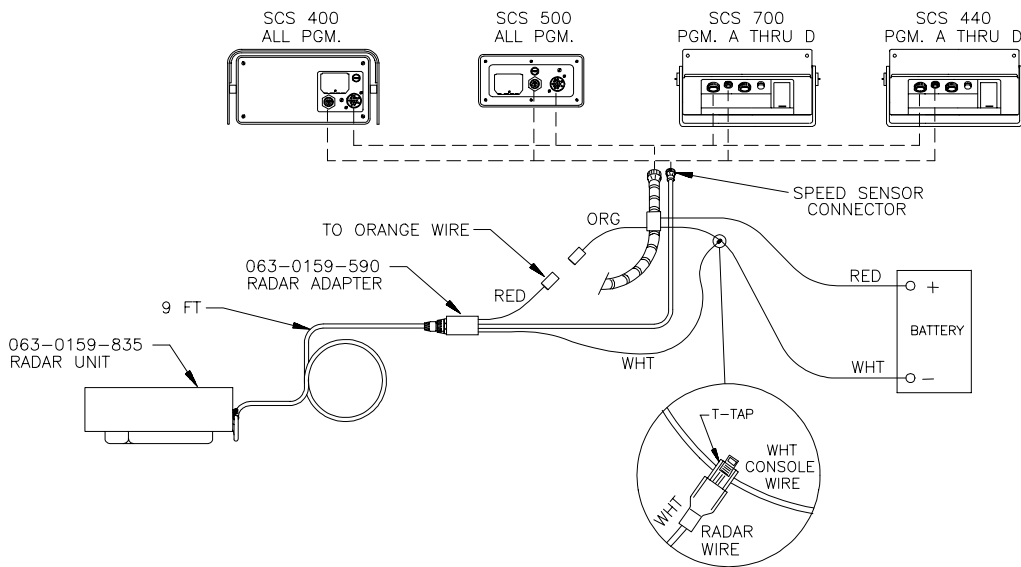

FIGURE 6
- a) For SCS 400, SCS 500, SCS 700 PGM A thru D, and SCS 440 PGM A thru D. Connect Radar with radar adapter (P/N 063-0159-590) to Console. See Figure 6.